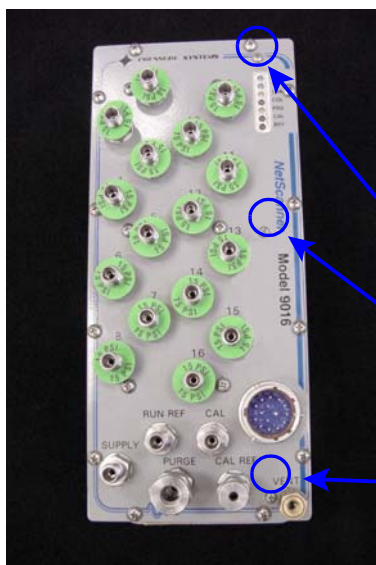

Figure 6a
- (2) Remove the three (3) 2-56 Phillips head screws securing the PC-280 mounting brackets to the top plate. These screws will be in line with the PC-280 LEDs that protrude through the top plate. Save for later use. Carefully lift the board out of the top panel. (See **Figures 6a** and **6b**.)